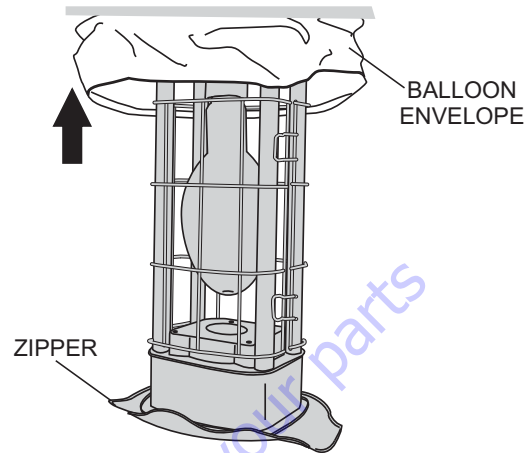

Figure 33. Rolling Up Balloon Envelope
4. Roll the balloon envelope (Figure 33) upwards to expose the lamp.